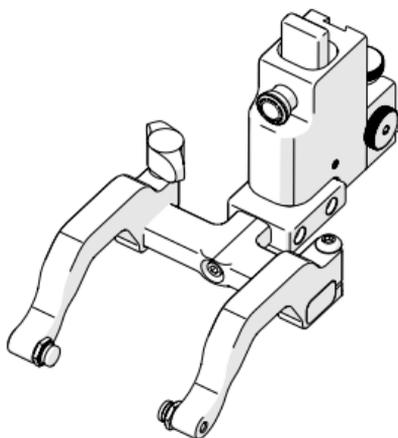

Fig. 128 - 90° probe holder positioning
2. Orient the yoke to the front of the probe holder and screw the yoke into the threaded hole provided (*Fig. 128*).